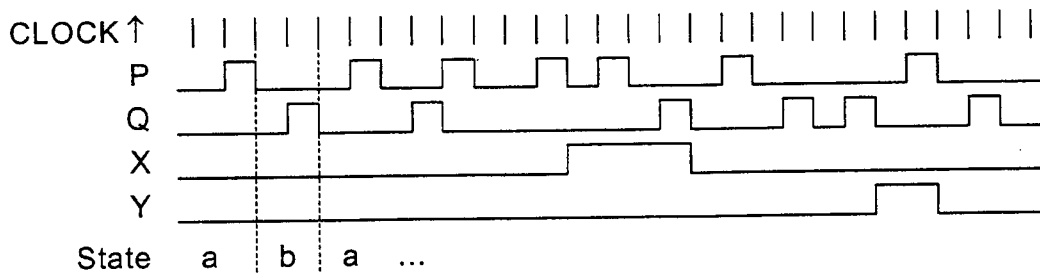

Figure 1.1
Figure 1.1 shows typical waveforms for P and Q and the corresponding output waveforms X and Y. Output X should go high whenever two or more pulses occur on P without an intervening pulse on Q. Similarly, output Y should go high whenever two or more pulses arrive on Q without an intervening pulse on P. If pulses arrive alternately on the two inputs, then both X and Y should remain low.
- (a) For the input signals shown in Figure 1.1, complete a state sequence that is consistent with the above specification. The states should be labelled "a", "b", ... and have been already completed for the first few CLOCK cycles. [10]